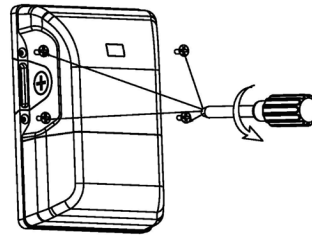

Fig. 1
2. Loosen the 4 screws (fig. 1)